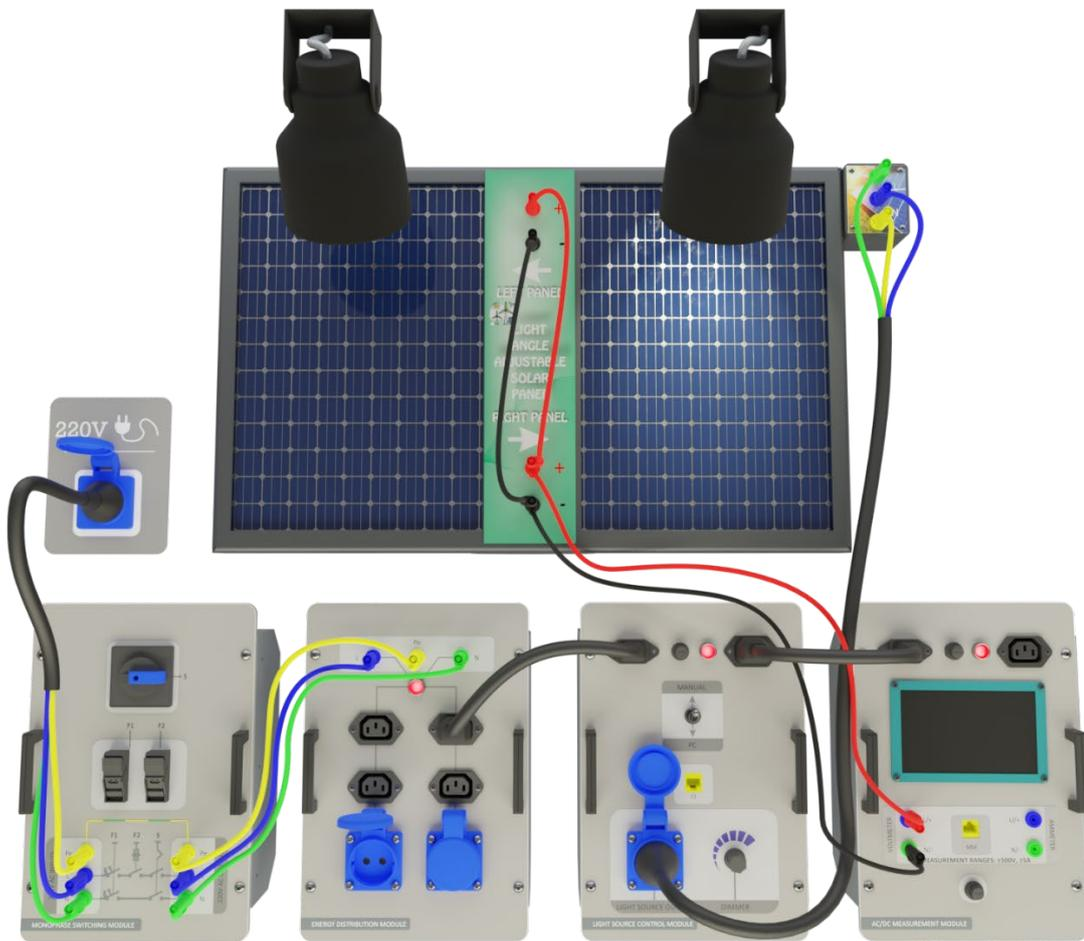

Figure-42. Installation Image of Examination of the Parallel Connection of Photovoltaic Panel
1. Set up the connection as specified in Figure-42. Ensure a constant level of light in the laboratory by creating an average scenario. Any alterations to the positions of the lamps or curtains will have an impact on the experimental outcomes.